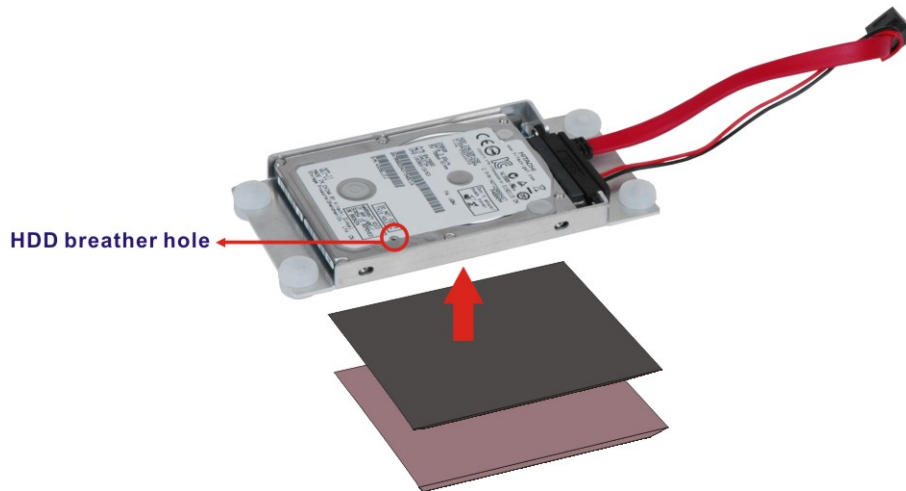

Figure 3-6: HDD Thermal Pads
Step 6: Adhere the two thermal pads came with the system onto the HDD bracket as shown in **Figure 3-6**.